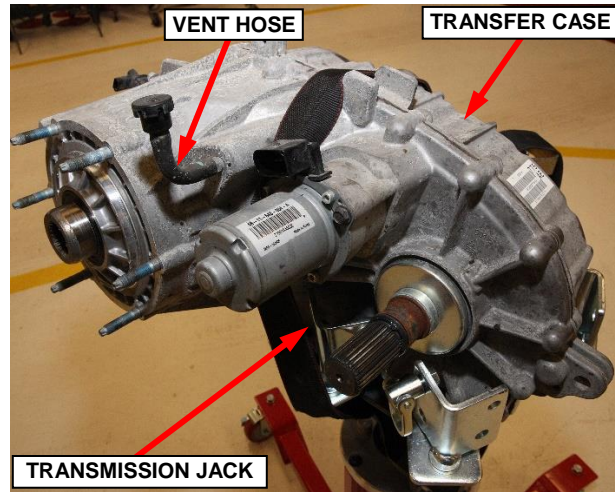

Figure 24 – Transfer Case Vent Hose
30. Remove and **SAVE** the vent hose from the transfer case (Figure 24).
2. Secure the **NEW** transfer case onto the transmission jack to prepare for installation (Figure 24).
3. Install the vent hose onto the **NEW** transfer case (Figure 24).